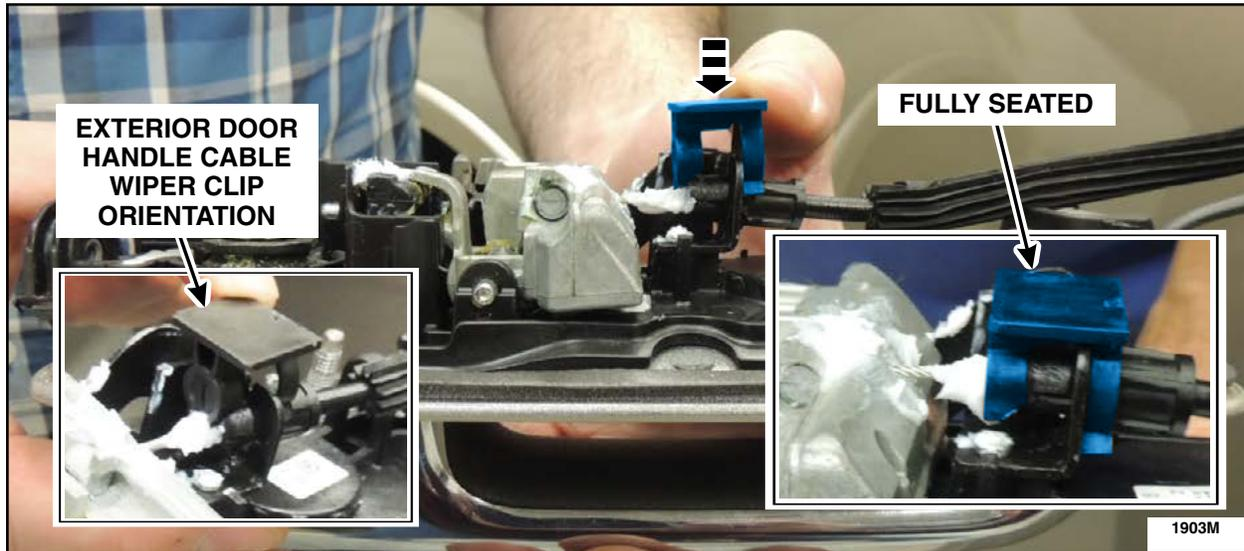

FIGURE 21
24. Install the *new* handle cable wiper clip on the exterior door handle cable end. See Figure 21.